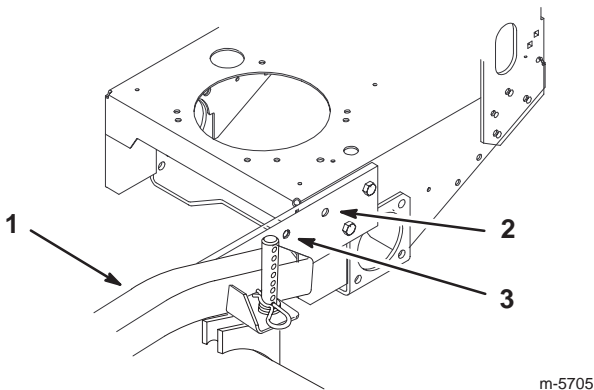

Figure 13
3. Align the battery holder so the back hole is aligned with the carrier frame hole (Fig. 13 and 14).
4. Using the battery holder as a template, mark and drill a $\frac{17}{32}$ inch hole (Fig. 13).